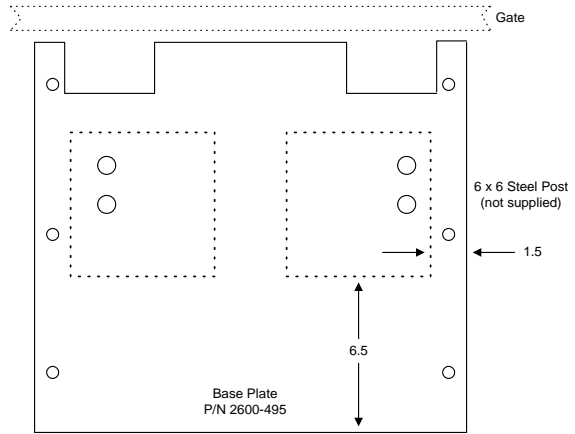

Figure 7
1. Post mounting the operator requires the use of an operator base plate (P/N 2600-495) and two (2) 6 X 6 steel post (not supplied) welded to the base plate as shown in figure 7. The length of the steel post and the depth of the pad are determined by soil conditions and local code requirements. We suggest that you contact the local building department to determine the required depth of the pad since soil conditions and code requirements vary from city to city.